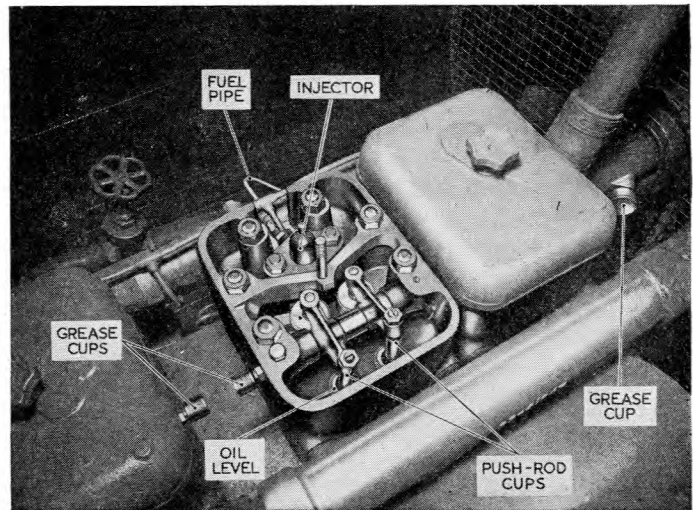

Fig. 10. Diesel engine : cylinder head
- (5) Cylinder heads (fig. 10). Fill these with oil to a level just below that of the
- (4) Remove the delivery valve holder and spring and raise the delivery valve slightly with the fingers. Fuel should now appear but hold the valve off its seat until all bubbles disappear.
- (5) Replace the valve, valve holder and spring, and reconnect the union.
- (6) Repeat (4) and (5) for the other three valves. Loosen the fuel pipe at the injector (*fig. 10*).
- (7) Place the governor handle in the start position (away from the radiator) by withdrawing the locking pin.